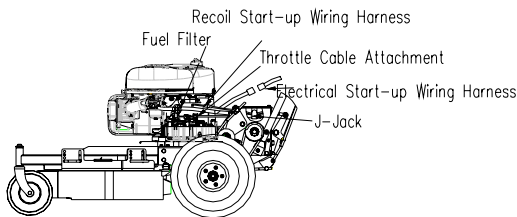

FIG3
- Route the throttle control cable through the rear shield and attach to the engine as show in FIG3 and in the engine operator manual.